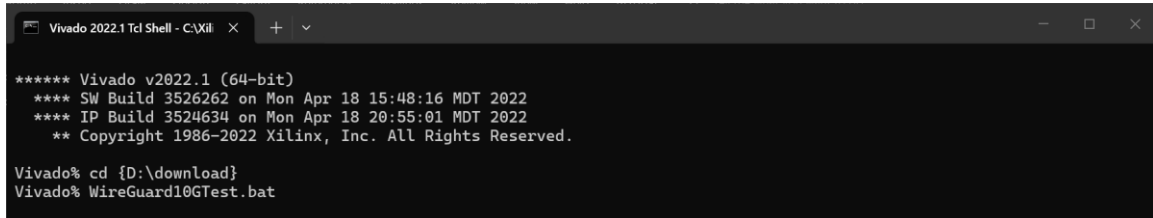

**Figure 10 WireGuard Tunnel Handshake Successful**
- 4) Once the tunnel is active, verify that the connection has been successfully established by checking the “Latest handshake” status. In the tunnel details panel shown in Figure 10